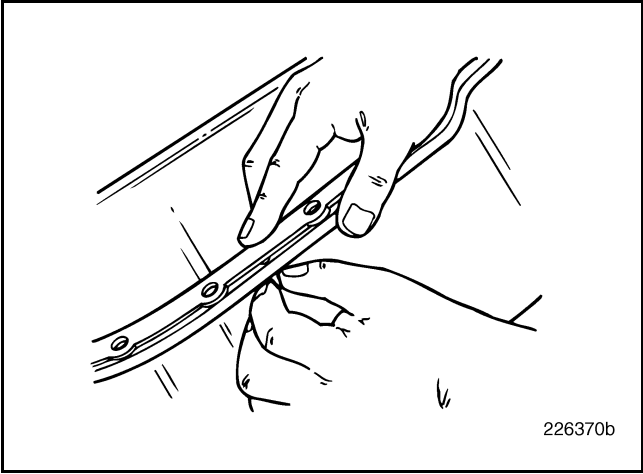

Figure 364 — Locating Cone Installation
5. In one motion, firmly press down on the gasket with one hand while carefully pulling the rubber cone through the hole with the other hand until seated (Figure 364). Continue this procedure for the remaining locating cones.